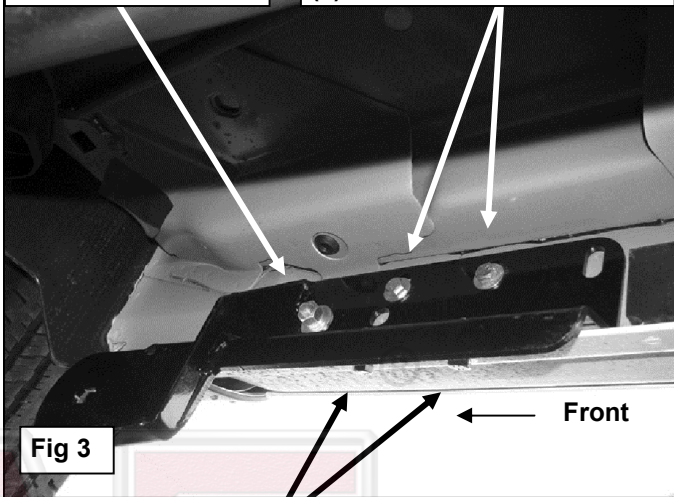

Fig 3
- Select the passenger side front Mounting Bracket. Attach the Mounting Bracket to the Bolt Plate with (1) 12mm Flat Washer, (1) 12mm Lock Washer and (1) 12mm Hex Nut, **(Figure 3)**. Do not tighten hardware at this time. Line up the front and center slots in the Mounting Bracket with the previously installed Clip Nuts. Attach the Bracket to the Clip Nuts with (2) 10mm Hex Bolts, (2) 10mm Lock Washers and (2) 10mm Flat Washers. Do not tighten hardware at this time.
- Next, line up the two holes in the Bracket with the factory holes in the bottom of the body panel. Bolt the Bracket to the body panel using the included (2) 8mm x 30mm Hex Bolts, (4) 8mm Flat Washers, (2) 8mm Lock Washers and (2) 8mm Hex Nuts, **(Figure 3)**. **NOTE:** Insert the Bolt with the Flat Washer up, from the outside-in and through the Bracket. Snug all hardware but do not tighten at this time.